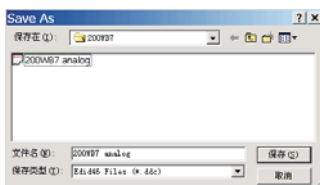

Fig. 25
- Click (Save) icon (or click "file"-> "save as") from the tool bar and give a file name as shown in Fig. 25. The file type is EDID46 file (*.ddc) which can be open in WordPad. By using WordPad, the texts of DDC data & table (128 bytes, hex code) can be modified. If DDC TEXTS & HEX Table are completely correct, it can be saved as .ddc file to re-load it into DDC IC for DDC Data application.